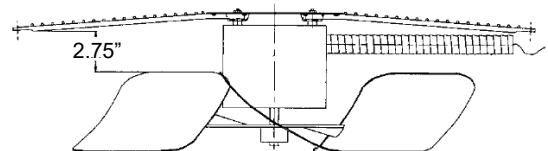

FIGURE 8
4. Adjust fan height as shown in **Figure 8**.
Refer to Troubleshooting Tables and **Figure 8** on previous page for additional information.
Refer to Troubleshooting Tables and **Figure 8** – Page 9 for additional information.